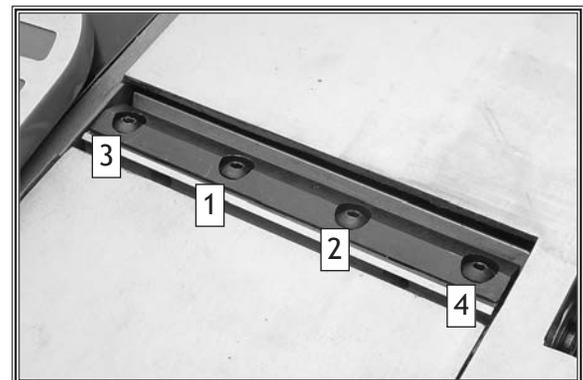

Figure 40. Knife clamp screw tightening sequence.
6. Install one knife, clamp it in the cutterhead, and slightly tighten each of the clamp screws in sequence, as shown in **Figure 40**.
9. Follow the tightening sequence and final tighten each of the clamp screws for both knives, as shown in **Figure 40**.